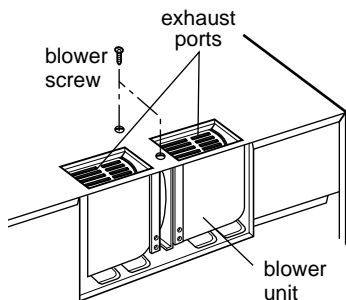

Figure 14
4. Place blower unit back into cabinet. Check that the exhaust ports face the upper of the cabinet. See Figure 14.
5. Tighten the two blower screws. See Figure 14.